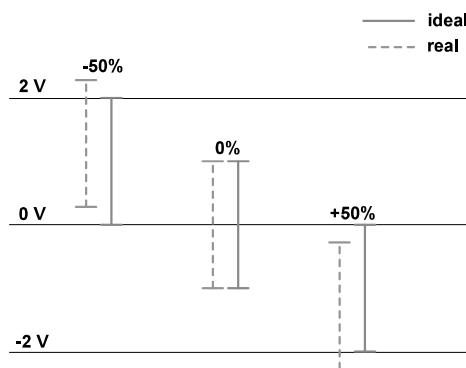

Fig. 7.7: Input signal DC offset adjustment description
- “**DC Offset**” box: sets the value of the DC Offset applied to the channel, expressed as the percentage of the Full Scale Range. Allowed values range between -50% (Full negative) and +50% (Full Positive). The DC Offset is a DC value added to the input signal by the input stage of the Digitizer in order to fit the signal dynamic range to the ADC input dynamics. Theoretically, the value of 0 (DC Offset = “0”) means that the input pulse DC level is set at half of the ADC dynamics (e.g. 2048 counts for the 720 series). The value of “50” (DC Offset = “50”) sets the DC level at the lower dynamics limit (i.e. 0 counts), while the value of “-50” (DC Offset = “-50”) sets the DC level at the upper dynamics boundary (i.e. 4095). The real DC offset adjustment implemented in the DPP-CI firmware is shown in **Fig. 7.7**: in order to preserve from saturation the input signals near the dynamics boundaries, setting the DC offset to -50 or +50 puts the signal baseline respectively a step up the upper boundary and a step under the lower boundary.